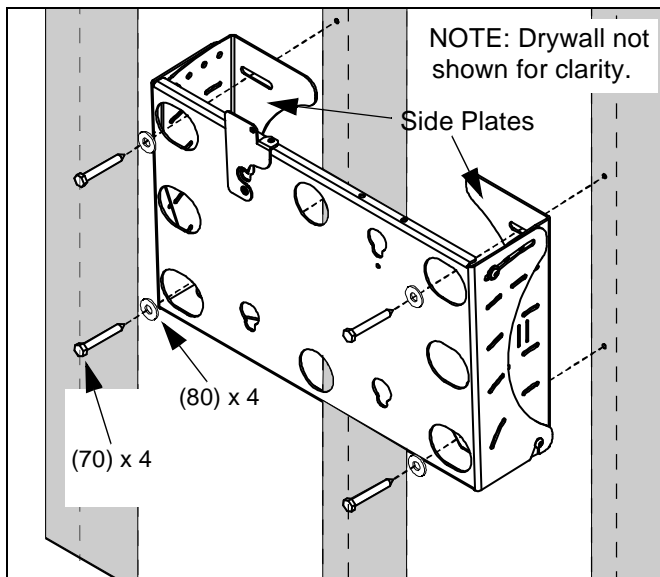

Figure 2: Mount Installation
5. Using 1/2" wrench, install four 5/16" x 2-1/2" hex head lag screws (70) and four 5/16" washers (80) through the mounting slots in the side plates into the pilot holes (See Figure 2). Tighten all lag screws.